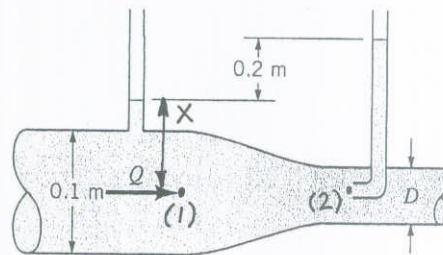

FIGURE P3.53
3.53 Water flows through the pipe contraction shown in Fig. P3.53. For the given 0.2-m difference in the manometer level, determine the flowrate as a function of the diameter of the small pipe,  $D$ .